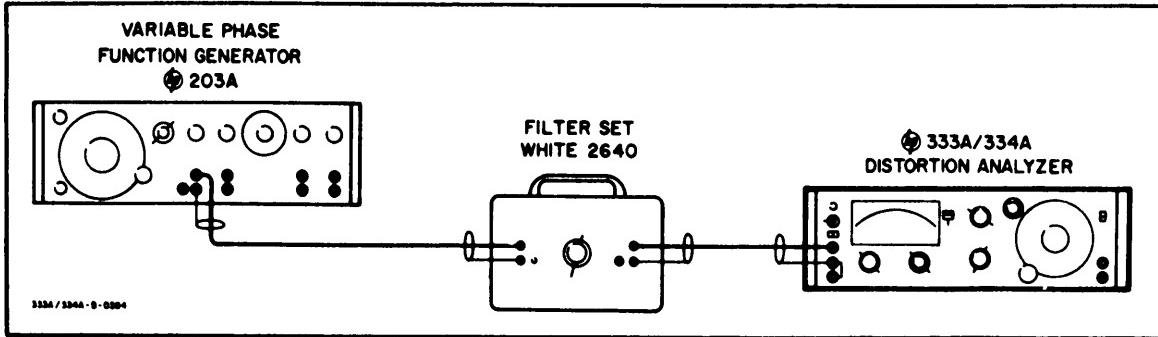

Figure 5-9. A3R16 and A3R30 Distortion Adjust Test Setup
- a. Connect test equipment to the 333A/334A as shown in Figure 5-9.
Paragraphs 5-28 to 5-29 and Figure 5-9